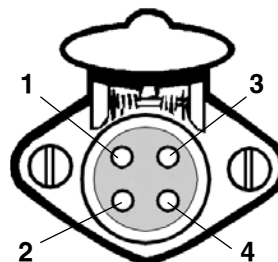

Figure 12
shown in Figure 12. Or, wire the socket to match the existing wiring on the motorhome.
5. If the motorhome does not have the correct wiring socket already, you can replace it with the new socket for the four-wire cord, and connect the appropriate wires to the new socket, according to Figure 12.